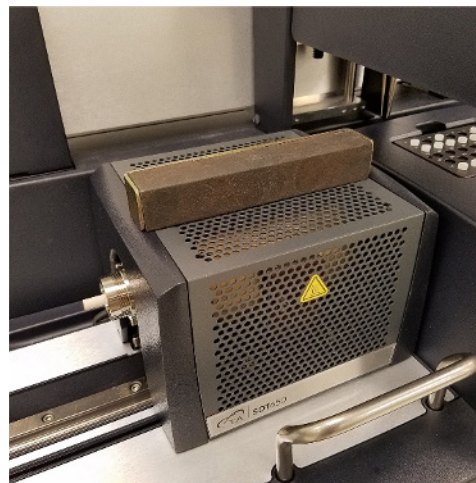

Figure 4. External bar magnet placement above SDT furnace
3. Slowly lower a bar magnet down onto the furnace until a weight loss is detected. Maintain the magnet in this position for the duration of the experiment (refer to Figure 4).